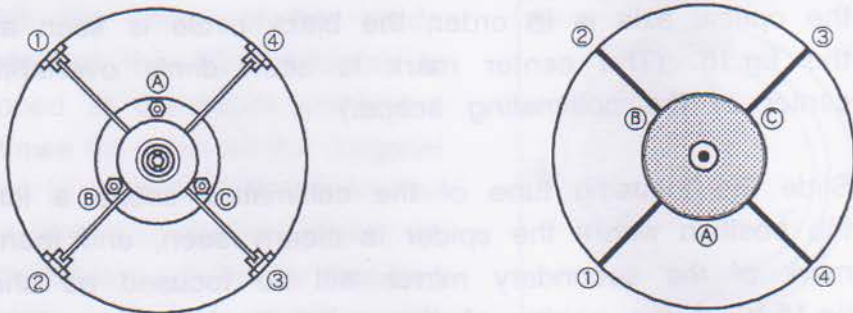
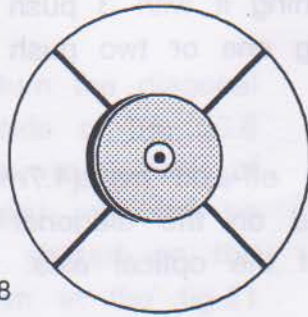

Fig.17
Fig.18
4) At first, loosen the lock nut of the adjusting screw. If the center mark of the secondary mirror is off from the center of the collimating scope as seen in the fig.15, Loosen the adjusting screws A and C, but pushing the screw B as shown in the fig.17. Then, the center mark of the secondary mirror comes close to the center of the collimating scope. Keep this procedure until the mark is just laid over the center of the collimating scope.
- 2) For example, take the case as shown in the fig.18 where the outer circle of the baffle of the secondary mirror is shifted to the left side. Loosen with an Allen wrench the pull screws ① and ② in the fig.17 and tighten the screws ③ and ④.